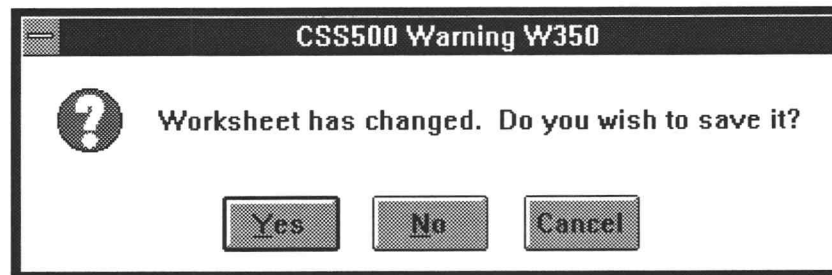

Figure 4-9. Warning box tell you to save the worksheet.
1. From the File menu, select New. If there was a worksheet already defined, the following Warning dialog box (Figure 4-9) may be displayed: